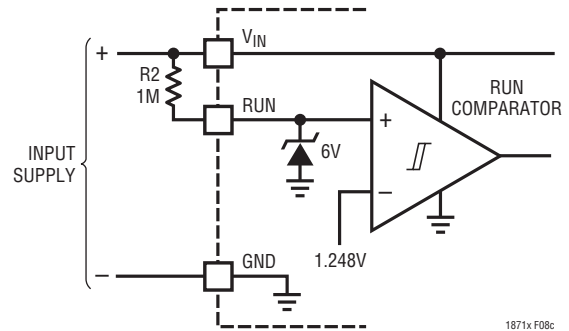

Figure 8c. External Pull-Up Resistor On RUN Pin for "Always On" Operation
**For applications where the RUN pin is only to be used as a logic input, the user should be aware of the 7V Absolute Maximum Rating for this pin!** The RUN pin can be connected to the input voltage through an external  $1\text{M}\Omega$  resistor, as shown in Figure 8c, for “always on” operation.